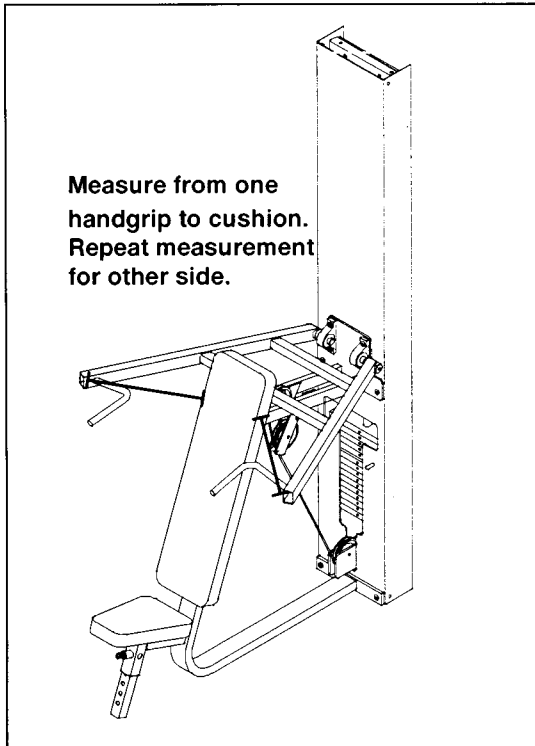

Figure 1 - Verifying Alignment
2. After installing Shoulder Press Package onto column, measure distance from edge of arm to edge of cushion. Repeat same measurement for other side. If distances are not equal then remove pillow block collars, realign shafts in pillow blocks until distance is equal then reinstall collars. See Figure 1.